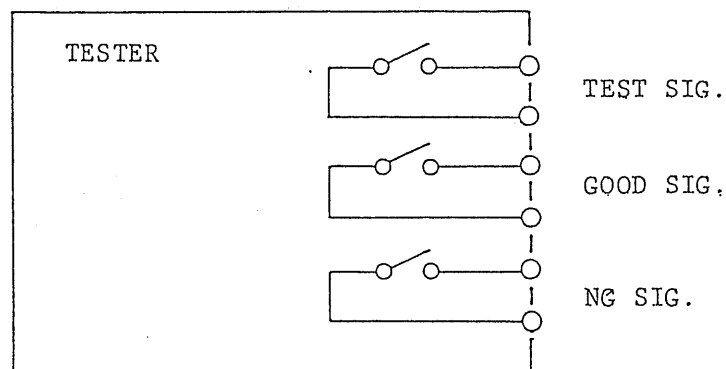

Figure 4.8
- ① The contact signals are only with contacts and without any power sources as shown in Figure 4.8. Therefore, they cannot drive any loads which have no own power sources.